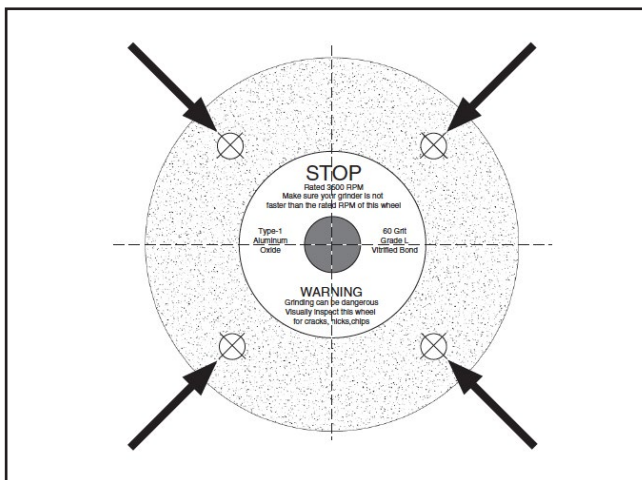

Figure 13. Tapping locations for a ring test.
3. At the four spots on the wheel shown in **Figure 13**, gently tap the wheel with a non-metallic object, such as a screwdriver handle or wooden mallet.